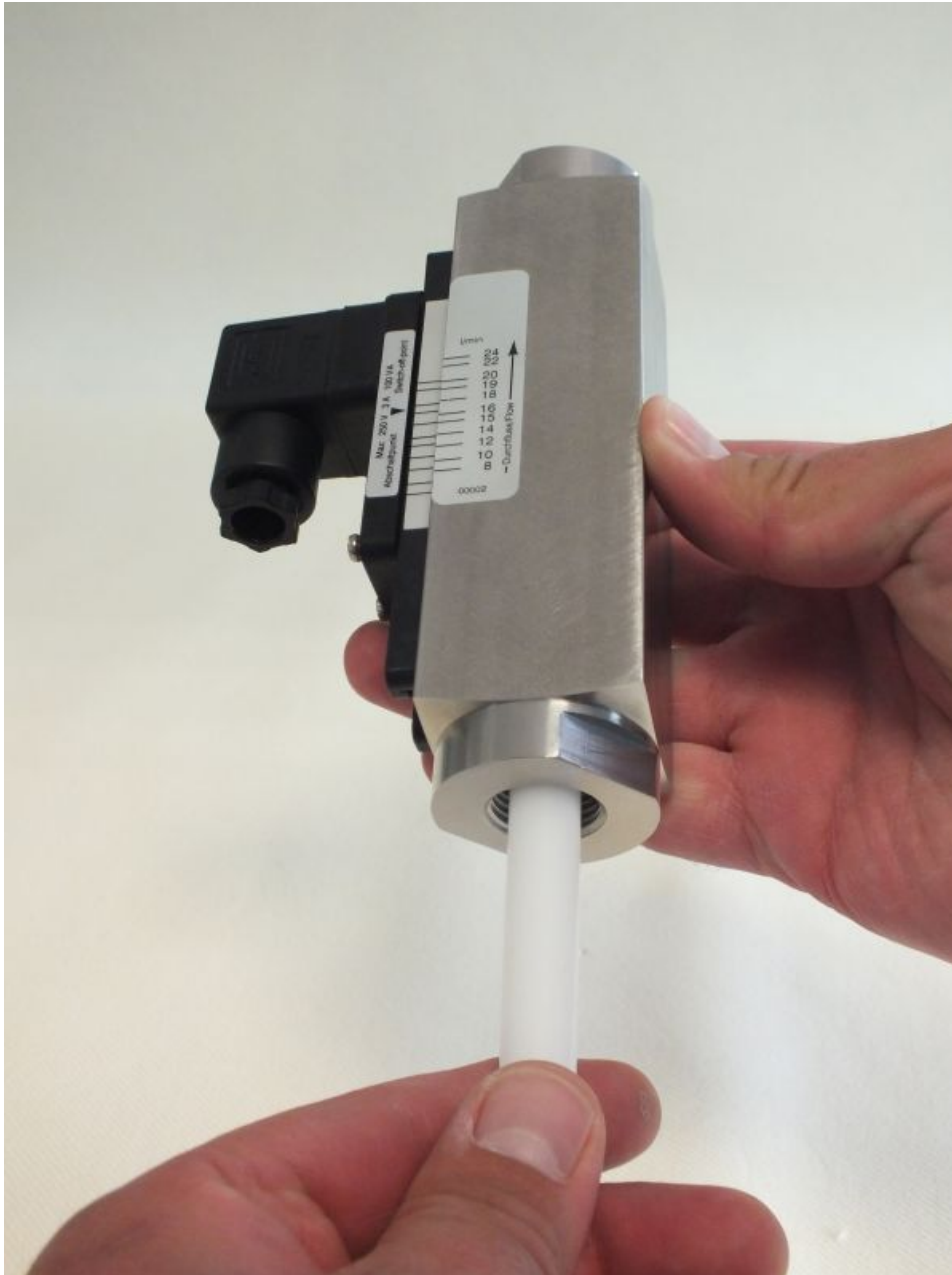

Fig. 72: Check for smooth operation
14. Check the float for ease of movement (Fig. 72) by applying light pressure with the test rod.